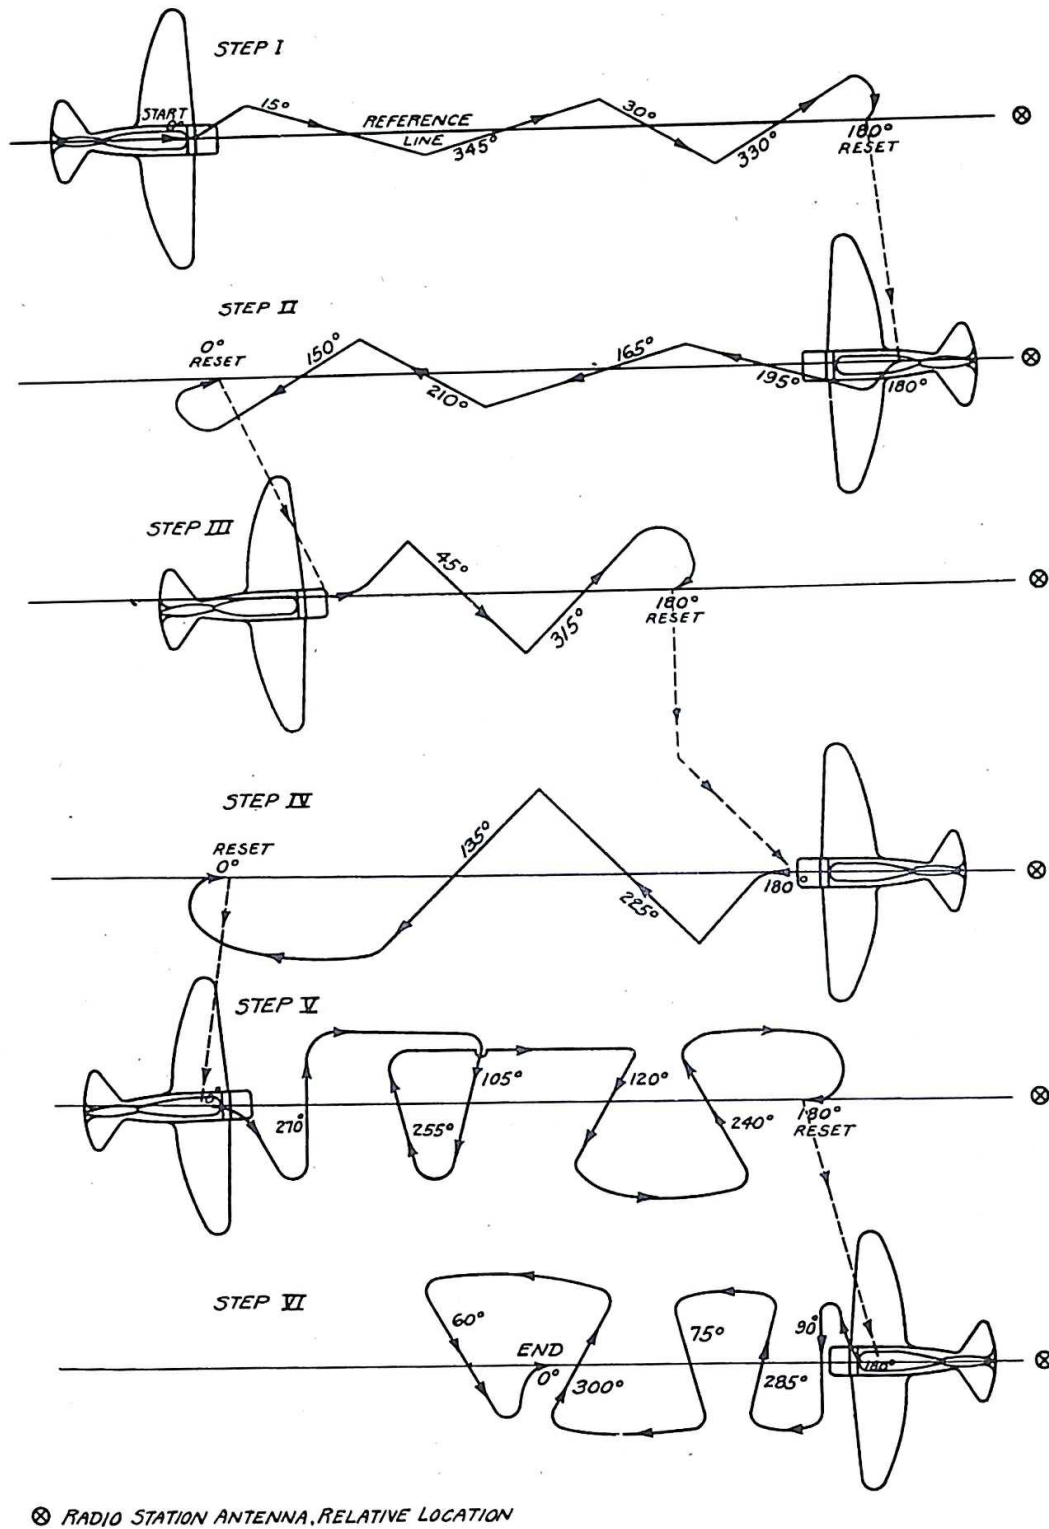

Figure 2-3. Procedure for Obtaining Radio Compass Deviation Data in Flight
This maneuver is shown in figure 2-3 as well as those discussed in the following paragraphs. In practice, it is best to have the co-pilot use figure 2-3 to direct the pilot and to check the location of the airplane at all times with respect to the flight pattern shown.
(6) Turn the aircraft to the left, and then swing back to the right, crossing the reference line at an angle of 15 degrees by the directional gyro. The pilot should be instructed to swing far enough out on these maneuvers to regain level flight some distance before the reference line is reached. Make readings only during conditions of level flight. Have the pilot inform the radio compass operator at the instant the airplane crosses the reference line. Record the radio compass bearing for that instant in the third column of figure 2-3. Greater accuracy can be obtained by using a drift meter since the drift meter observer can determine the exact moment of crossing the reference and can record the exact heading of the aircraft in relation to the reference.
(7) Repeat the preceding procedure throughout step I of figure 2-3, recording the data in the third column of figure 2-4. Return on the reference line as shown in step II. Reset the directional gyro each time a new step is begun.
(8) Repeat the above procedure until the entire flight pattern of figure 2-3 has been flown.
(9) During the above procedure, take care to avoid parallax in reading the instruments. Set the